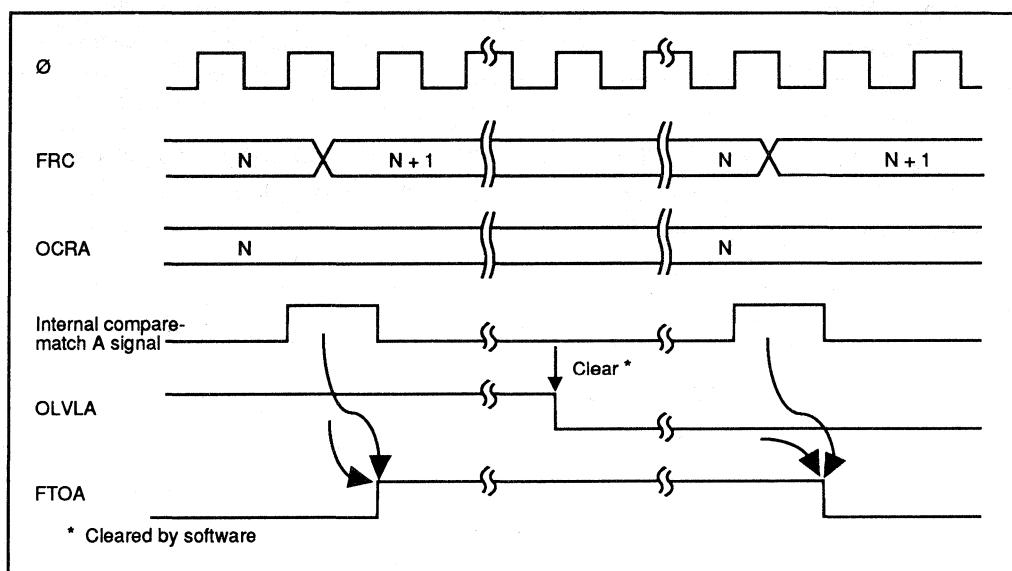

Figure 6-10. Timing of Output Compare A
**(3) Output Timing:** When a compare-match occurs, the logic level selected by the output level bit (OLVLA or OLVLB) in TOCR is output at the output compare pin (FTOA or FTOB). Figure 6-10 shows the timing of this operation for compare-match A.